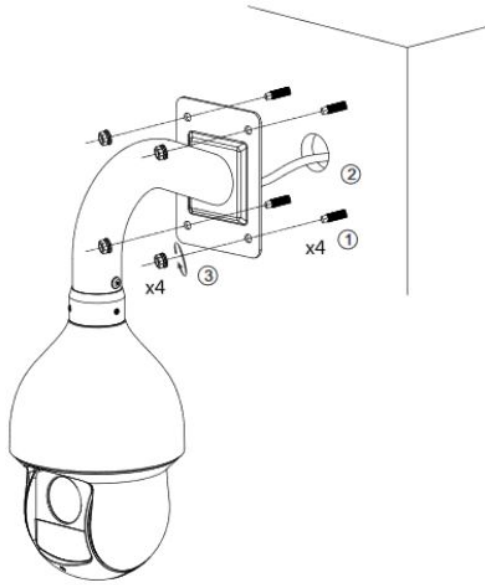

Figure 2-5
Step 5 Install the camera with mount using the mounting bolts. See Figure 2-5.